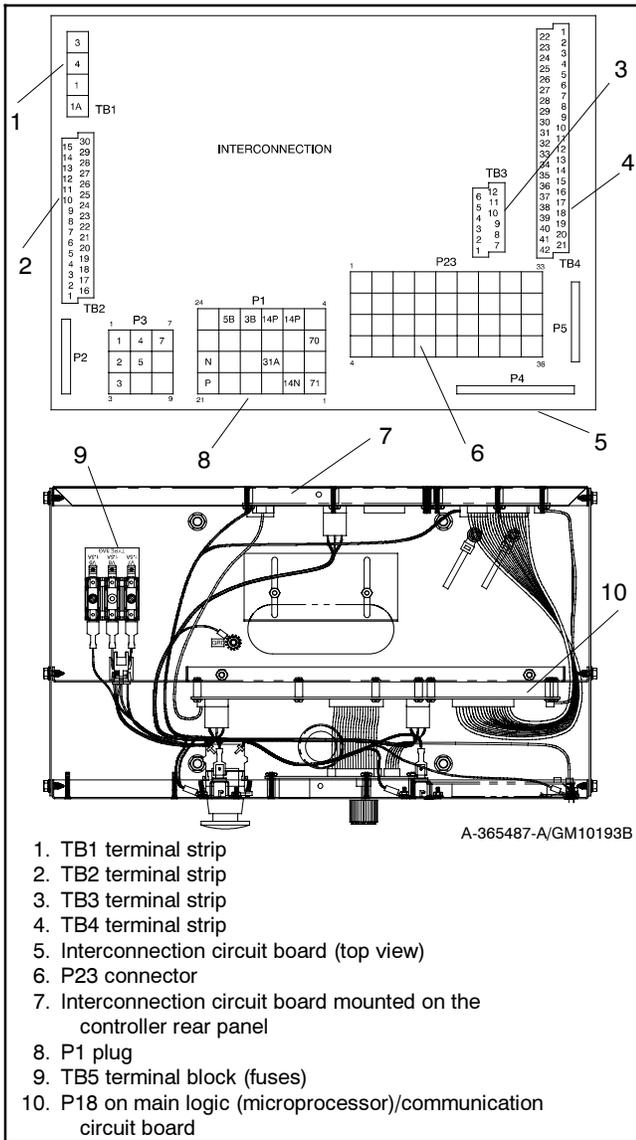
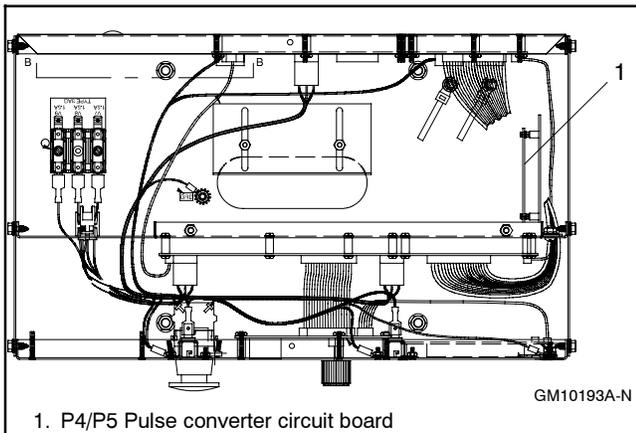
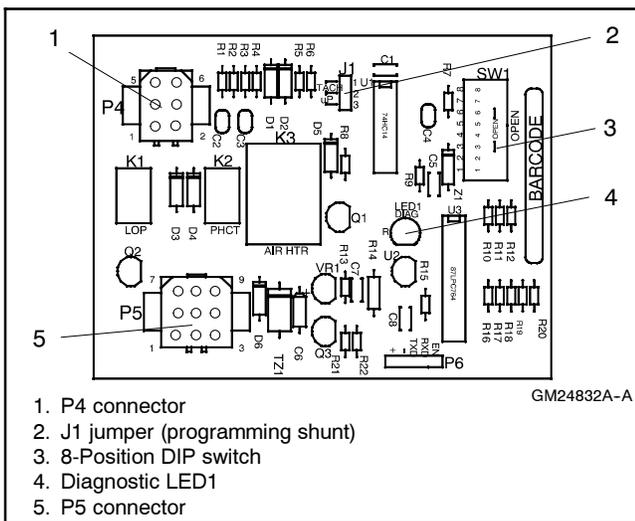

Figure 5 Disconnecting Controller Circuit Board External Wiring Connections
Figure 6 Pulse Converter Circuit Board Mounting in 550 Controller (top view)
Figure 10 Pulse Converter Circuit Board GM24832
disassemble the controller box. Remove the two controller panel top screws and center bottom screw and then loosen the bottom screw on each side to swing the controller panel down. See Figure 5.
- 5.2 Disconnect the controller harness leads. Listed below are some common leads and plugs that require removal or disconnection. Items below in **bold** are shown in Figure 5 and Figure 6. These connections are typical and may not apply to all applications. See the corresponding wiring diagram found in the wiring diagrams manual.
- 9.1 Refer to Figure 6 for the location of the pulse converter circuit board. Refer to Figure 10 for components.
front panel is difficult, partially disassemble the controller box. Remove the two controller panel top screws and center bottom screw and then loosen the bottom screw on each side to swing the controller panel down. See Figure 5.